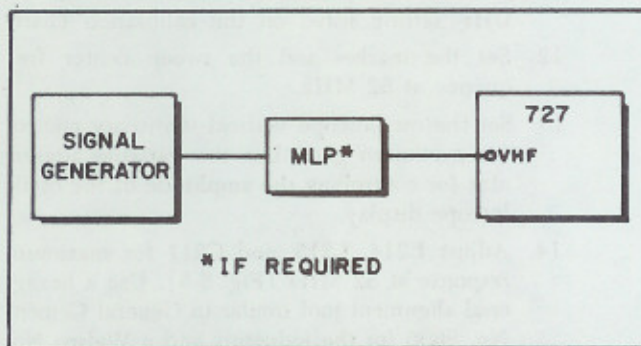

Fig. 5-3. Setup for Tuner Compensator Calibration by the Signal Generator Method
7. Connect equipment as shown in Fig. 5-3.